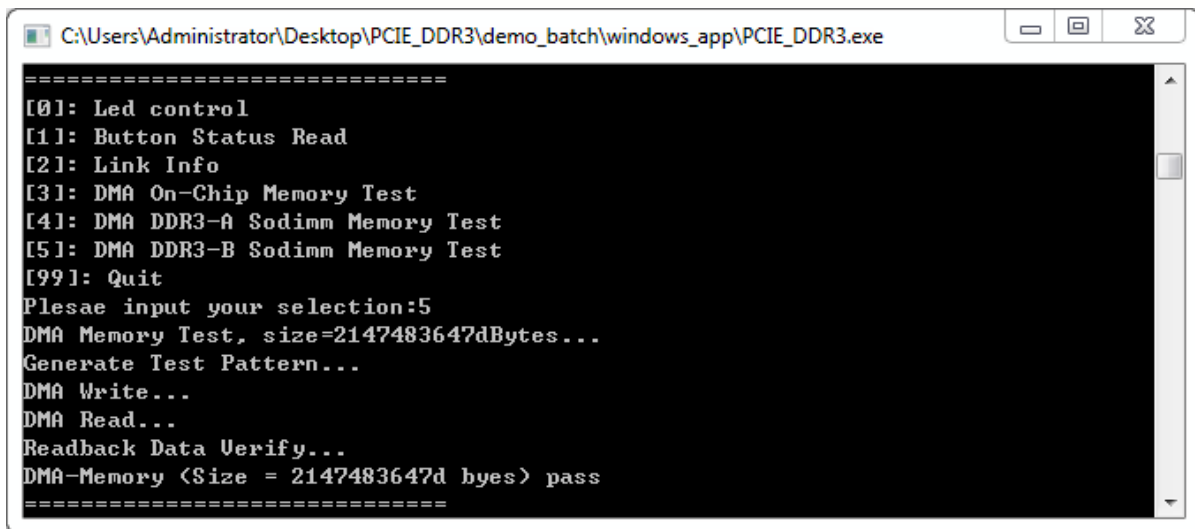

Figure 7-20 Screenshot of DDR3-B SODIMM Memory DAM Test Result
- Type-5 followed by an ENTER key to select DMA DDR3-B SODIMM Memory Test item. The DMA write and read test result will be report as shown in **Figure 7-20**.